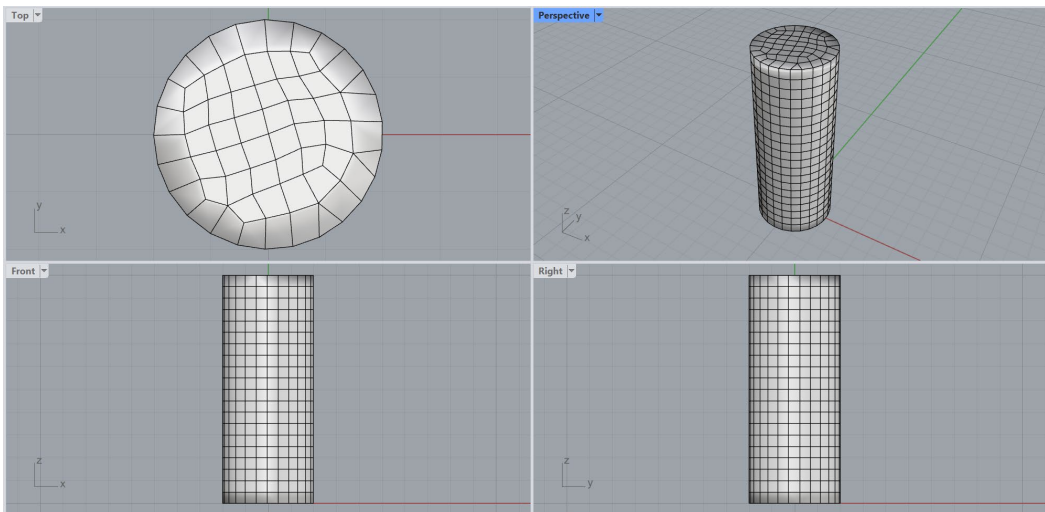
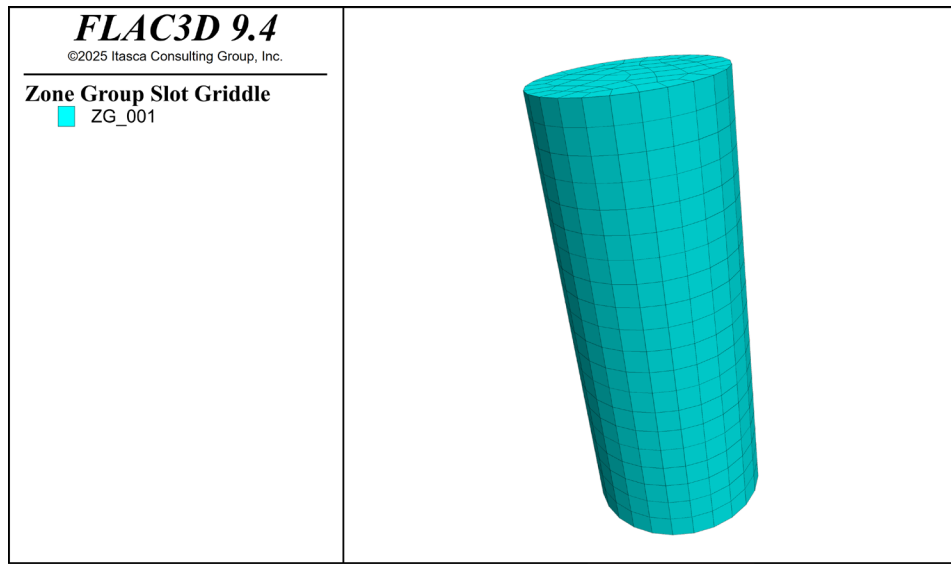

Figure 3: Quad-dominant surface mesh generated by *GSurf*.
Figure 4: Volume mesh of cylinder imported into FLAC3D.
7. Select the surface mesh and type **_GSurf** or click on the  icon in the *Griddle* toolbar to remesh the initial triangular mesh. Select **Mode = QuadDom**, **MinEdgeLength = 0.5**, **MaxEdgeLength = 0.5**, **AdvancedParameters: ShapeQuality = 0.65** and keep all other parameters at the default values. The resulting mesh is shown in Figure 3.
8. Select the surface mesh generated in the previous step and type **_GVol** or click on the  icon in the *Griddle* toolbar. Select **MeshSettings → Mode=HexDom**, leave all other parameters at the default settings and press **Enter** twice. After the **Save As** dialog appears, type a desired name for the output file. **GVol** will generate a conformal hex-dominant volume mesh and output it using the *FLAC3D* binary format (the default format) to the selected file. This file can be imported into *FLAC3D* using *FLAC3D*'s **File → Grid → Import from FLAC3D ...** option (Figure 4).
Although the mesh in Figure 3 and Figure 4 may resemble a structured mesh or a pure hexahedral mesh, the **GVol** output log file reports that the output mesh contains: